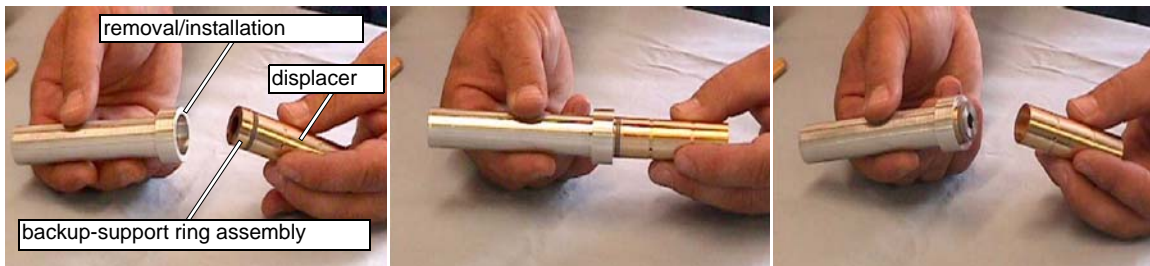

Figure 5-12: Separating the Backup-Support Ring Assembly from the Displacer.
5. Separate the Backup-support Ring Assembly (Figure 3-10) from the Displacer by placing the large end of the Removal/installation Tool (Figure 5-12) over the Backup-support Ring Assembly and breaking the Short Seal Ring loose from the Displacer.